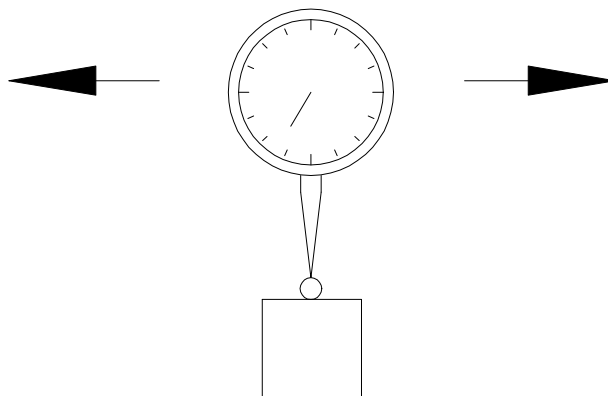

FIG. 6-1D
3. FIX 1 DIAL GAUGE ON THE WORK TABLE (AS FIG. 6-1D), AND MOVE X,Y AXIS FOR CHECKING IF THERE IS ANY DEVIATION OF HORIZONTALLY .